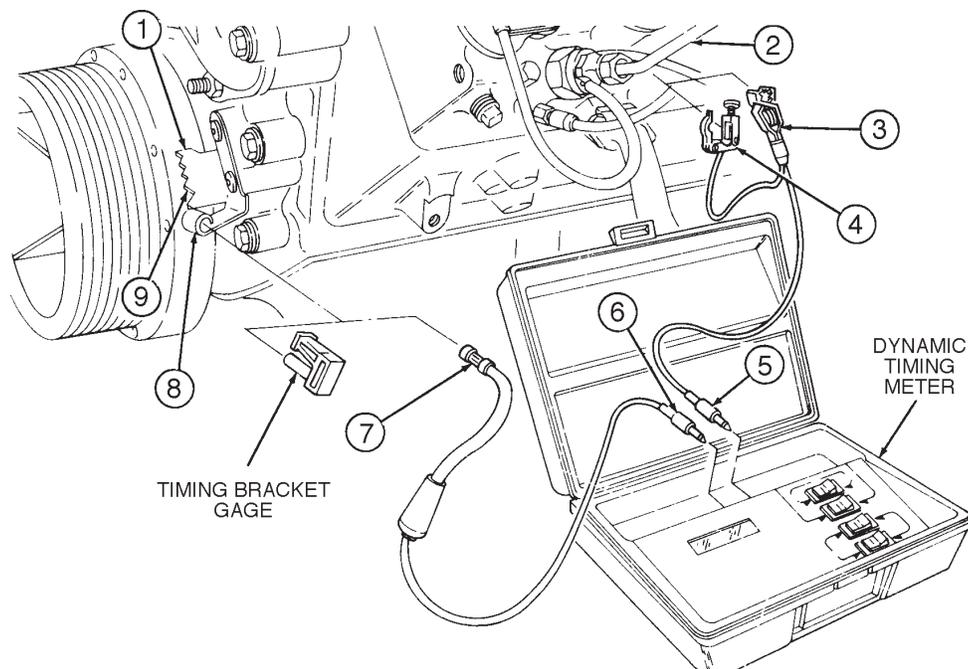

Figure 4-3. Engine Injection Pump Timing Meter Hook-up.
D. ENGINE INJECTION PUMP TIMING PROCEDURES USING KENT-MOORE TACH-N-TIME METER (Figures 4-3 through 4-7)